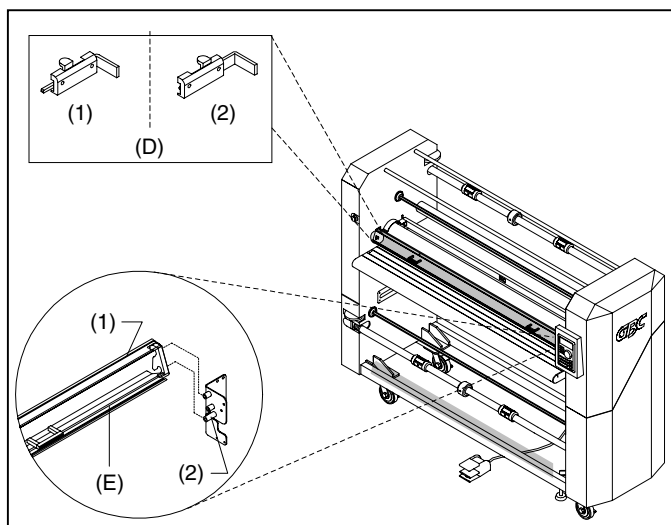

Fig. 11
D. SAFETY SHIELD INTERLOCK LATCH: (Figure 11) Used to lock the safety shield into position and activate an interlock switch. The interlock latch is located on the left side of the safety shield. When pushed to the full left (1), the safety shield is locked. When pushed to the full right (2), the safety shield is unlocked.
E. SAFETY SHIELD: (Figure 11) Prevents entanglement, entrapment and inadvertent contact with the heat rollers. **The laminator will operate only when the Safety Shield is located in the fully locked and closed position. Power to the motor is removed when the shield is in the open position or the interlock latch is unlocked.**